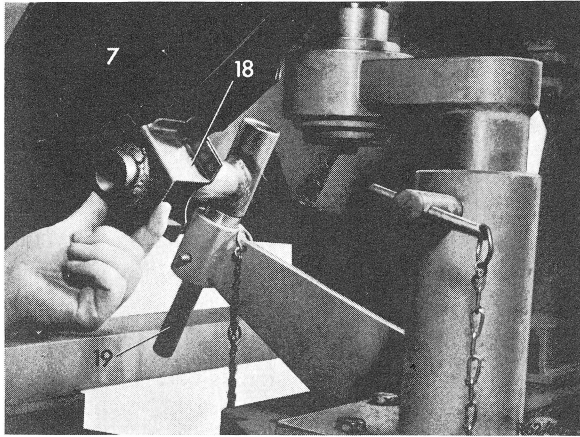

Fig. 10
23 Fit bracket with bearing (18) to side member (7) and lock in position with control plug (19) (Fig. 10).